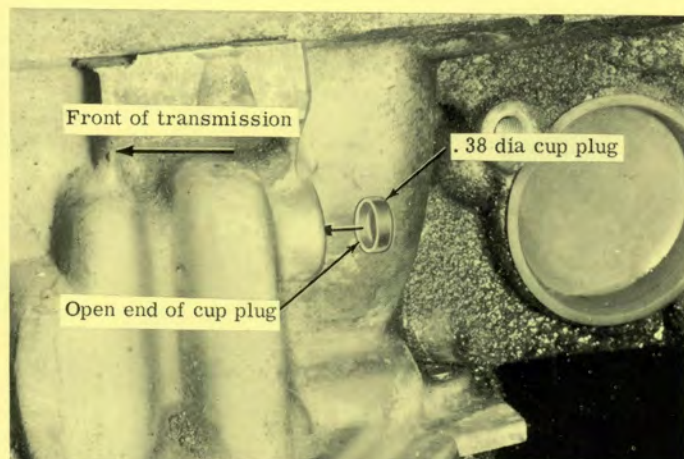

FIGURE 2
3. Position cup plug with open end facing front of transmission. See Figure 2.
Before installing a first type service gasket, it should be modified as shown in figure 2.